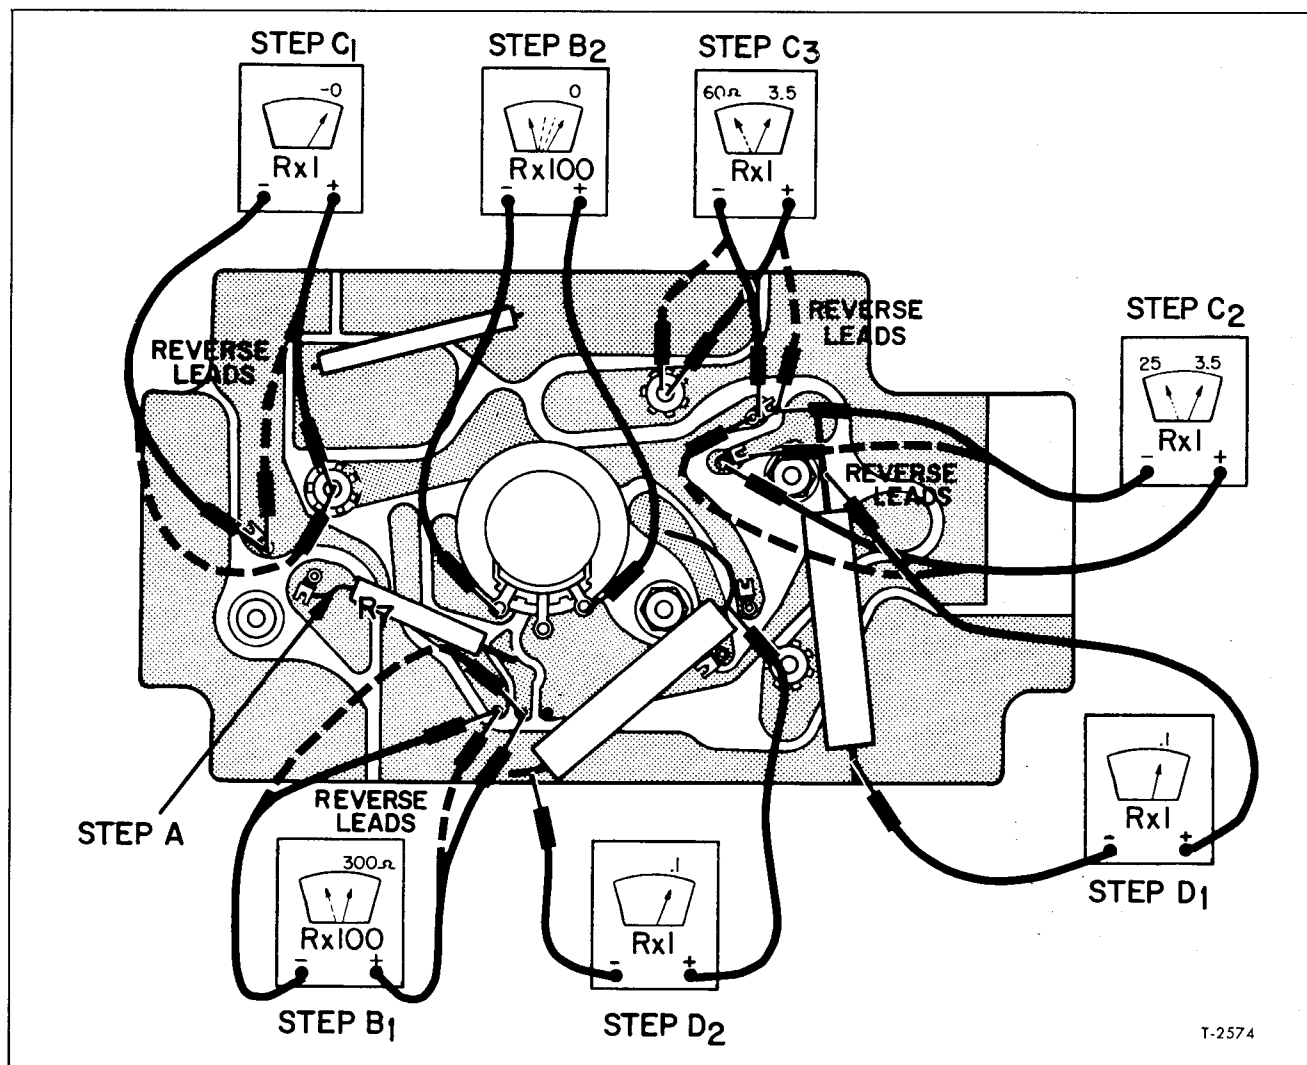

Figure 12—Test Set-Up When Pump Motor Will Not Start
a. To isolate this problem to one section of the control, unsolder and lift one end of R7 as shown in figure 12, step a. If the motor starts running full speed, go to step b. If the motor still does not start, go to step c.
b. (1) Connect the ohmmeter to TR1 as shown in figure 12, step b 1. Then reverse the leads and measure again. Neither reading should be below 300 ohms. If either reading is zero, the transistor is shorted and should be replaced.
(2) Connect the ohmmeter as shown in figure 12, step b 2. Mark the position of the screw slot of the potentiometer on the case. Then rotate the screw to both extremes of travel with the ohmmeter still connected. If the ohmmeter reading changes as the screw is turned, return the screw to its original position. If the ohmmeter does not move, replace the potentiometer.
c. (1) Connect the ohmmeter as shown in figure 12, step c 1, and read the resistance. Then reverse the leads and read again. Both readings should be above 3 ohms. If either reading is zero, replace the transistor TR2. If readings are as required, proceed to next step.
(2) Connect the ohmmeter as shown in figure 12, step c 2, and read resistance; then reverse the leads and read again. The first reading should be under 5 ohms and the second 25 ohms or above.
(3) Connect the ohmmeter between C and B as
in figure 12, step c 3, then reverse the leads. These two readings should fall in the same ranges as in step 2. If the first reading of either step 2 or 3 is higher than 5 ohms, remove and replace both TR3 and TR4 because they are a matched pair.
d. (1) Connect the ohmmeter as shown in figure 12, step d 1. It should read 0.1 ohm. If it is higher, replace R9.
(2) Repeat for R10 as in step d 2 of figure 12. It also should read 0.1 ohm.